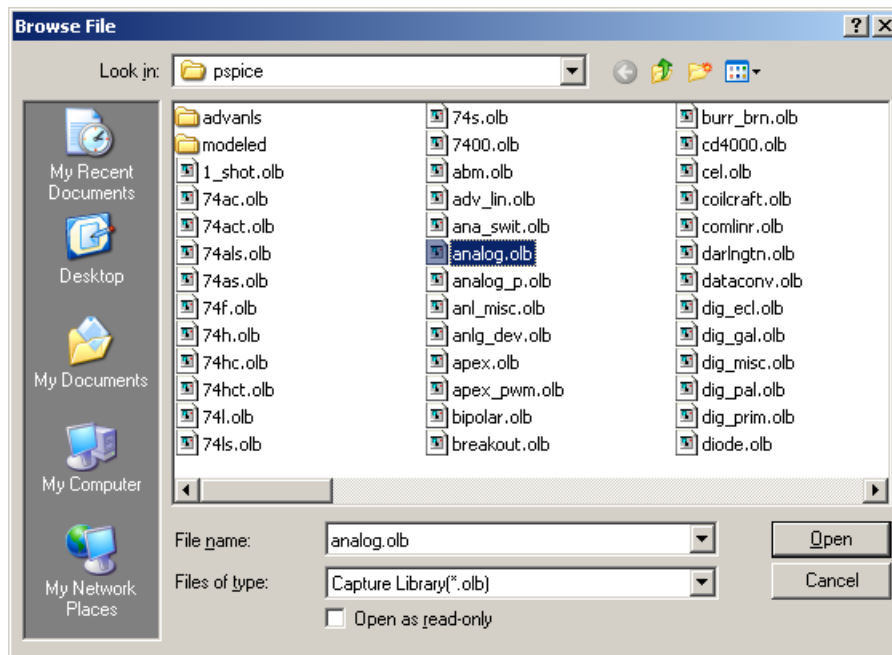

Figure 9: Dialogue box for adding a library to Capture.
- Click Add Library..., which brings up the dialogue box shown in figure 9. Always check